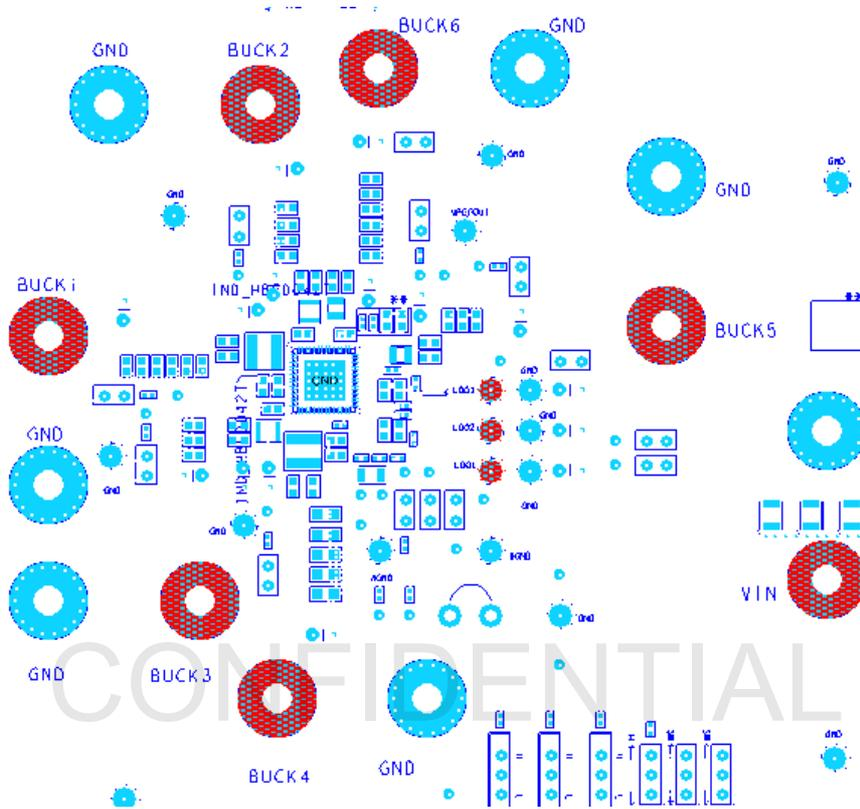

Figure 7. Regulator Load Connection Points
2. Connect loads to the buck regulator outputs at the 4mm banana sockets shown in Figure 7. The ground of each output is the black socket adjacent to its respective red socket. The sockets include screw-down connections that can be used for connecting electronic load remote sensing.